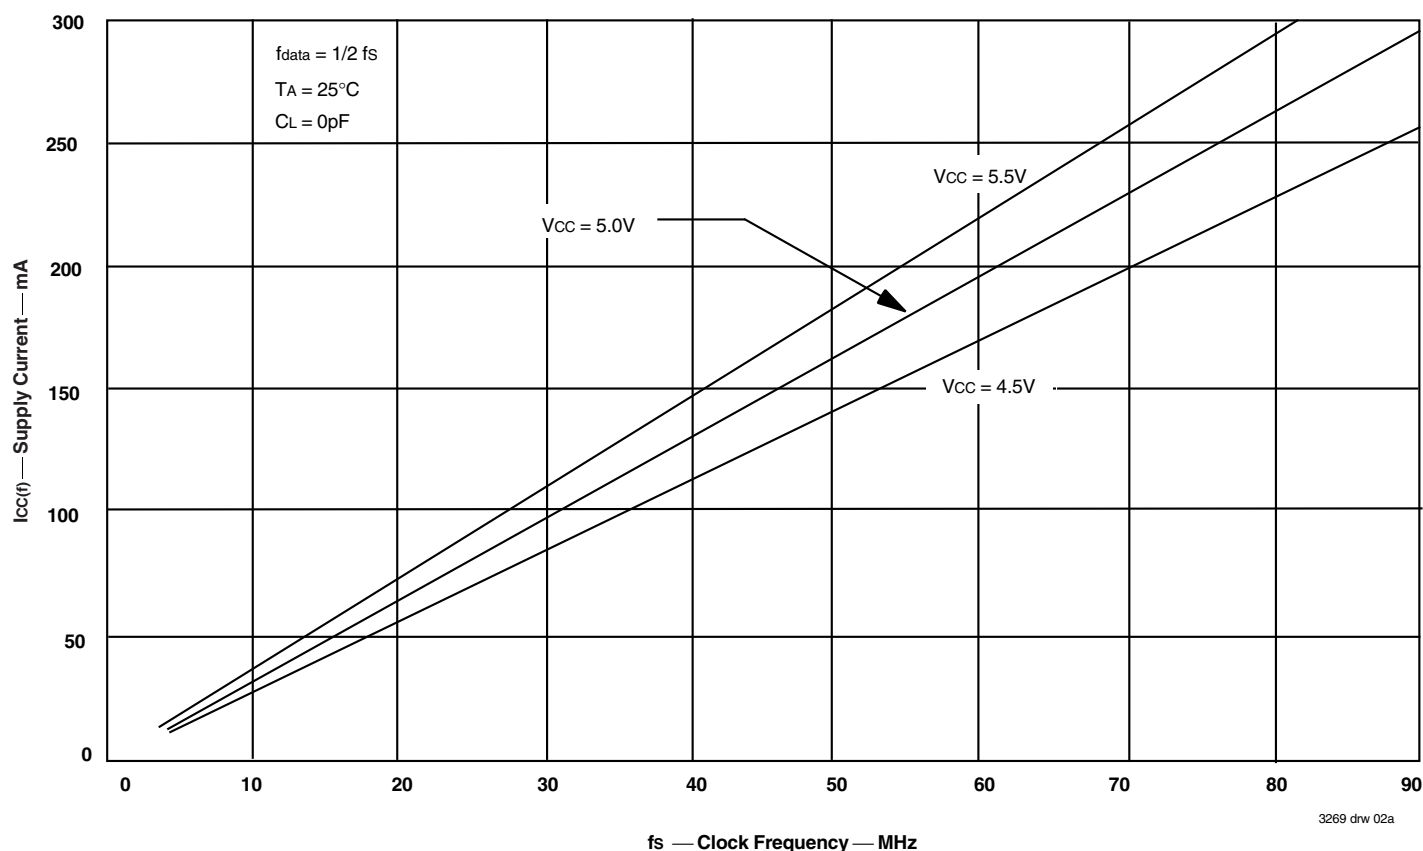

Figure 1. Typical Characteristics: Supply Current (I_{CC}) vs. Clock Frequency (f_s)
- For additional I_{CC} information, see Figure 1, *Typical Characteristics: Supply Current (I_{CC}) vs. Clock Frequency (f_s)*.
The $I_{CC}(f)$ current for the graph in Figure 1 was taken while simultaneously reading and writing a FIFO on the IDT723623/723633/723643 with CLKA and CLKB set to f_s . All data inputs and data outputs change state during each clock cycle to consume the highest supply current. Data outputs were disconnected to normalize the graph to a zero capacitance load. Once the capacitance load per data-output channel and the number of IDT723623/723633/723643 inputs driven by TTL HIGH levels are known, the power dissipation can be calculated with the equation below.
With $I_{CC}(f)$ taken from Figure 1, the maximum power dissipation (PT) of these FIFOs may be calculated by: